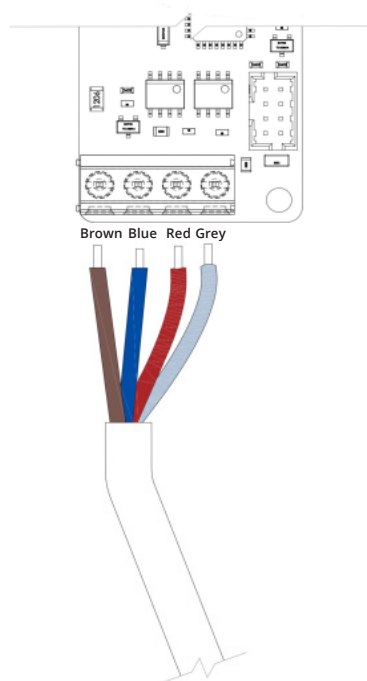

Figure 5.1
6. Connect the cable to the terminal block on the PCB. **Refer to Section 5, Figure 5.1.**